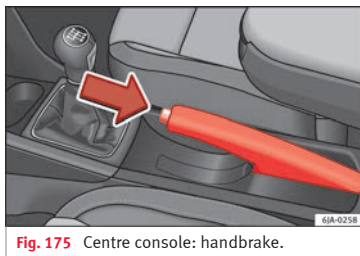

Fig. 175 Centre console: handbrake.
- Pull the handbrake lever up slightly and press the unlock button **at the same time** » **Fig. 175**.